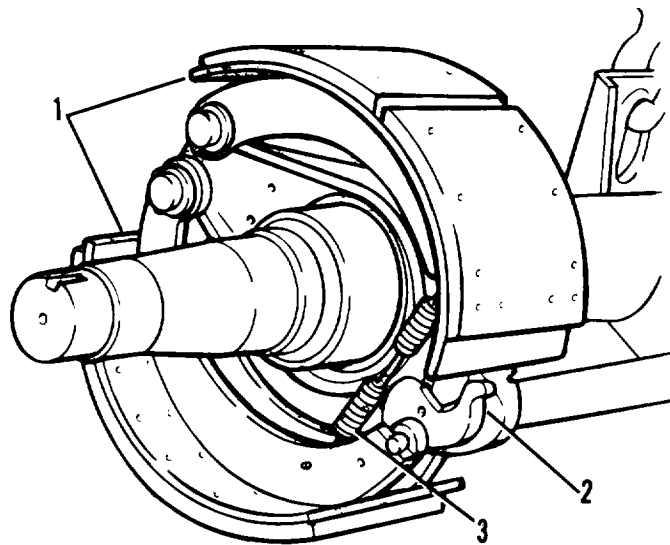

Figure 4-23. Internal brakes
- (1) The internal brakes are located within the brake drums. Each internal brake has two brake shoes (1, figure 4-23). The outer surfaces of the brake shoes are fitted with brake linings. Each shoe is anchored at one end on an anchor pin on which it pivots. The other end of each shoe is free to be pushed out or pulled.
- (2) An S-shaped cam (2) on the end of the camshaft is mounted between the free ends of the two shoes (1). Rotation of the cam (2) forces the shoes (1) out causing the brake linings to contact the drum.
- (3) A brake shoe tension spring (3), near the free ends of the brake shoes, retracts the brake shoes (1) from the drum and holds them in a retracted position until the brakes are applied.